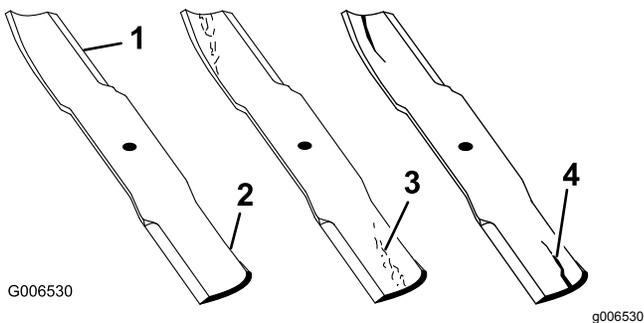

Figure 145
2. Examine the cutting ends of the blade carefully (especially where the flat and curved parts of the blade meet) as shown in Figure 145.
Note: Since sand and abrasive material can wear away the metal that connects the flat and curved parts of the blade, check the blade before using the mower. If you notice wear, replace the blade (Figure 145).